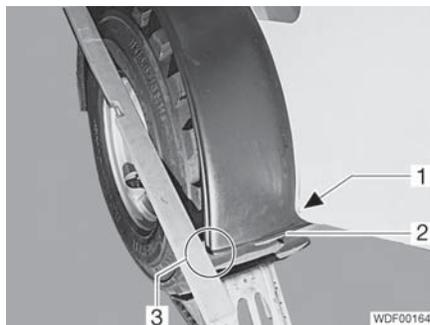

Fig. 272 Fender attachment
- Place the fender into position so that the bead (Fig. 272,2) is exactly below the rear carriage and the wheel projects approximately 10 mm over the fender (Fig. 272,3).
- Mark the position of the first hole (Fig. 272,1) and drill it.
- Screw in the 1 screw (Fig. 272,1).